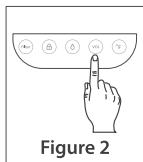

Figure 2
**Step 2:** Press any key at the top to wake up the screen, press the “” key to select your desired water volume (8 OZ, 12 OZ, 16 OZ or 20 OZ), and press the “” key to get water (**Figure 2**).